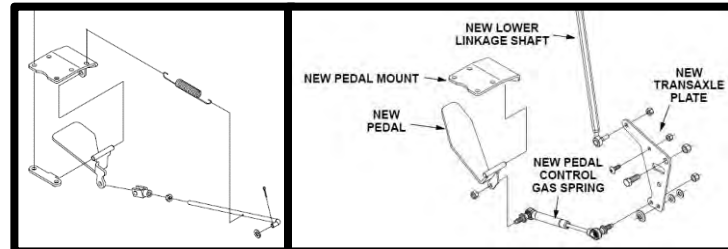

FIGURE 2: Left) Old speed lock foot pedal, Right) New foot operated forward ground speed foot pedal
- New foot operated forward ground speed foot pedal (**FIGURE 2**)